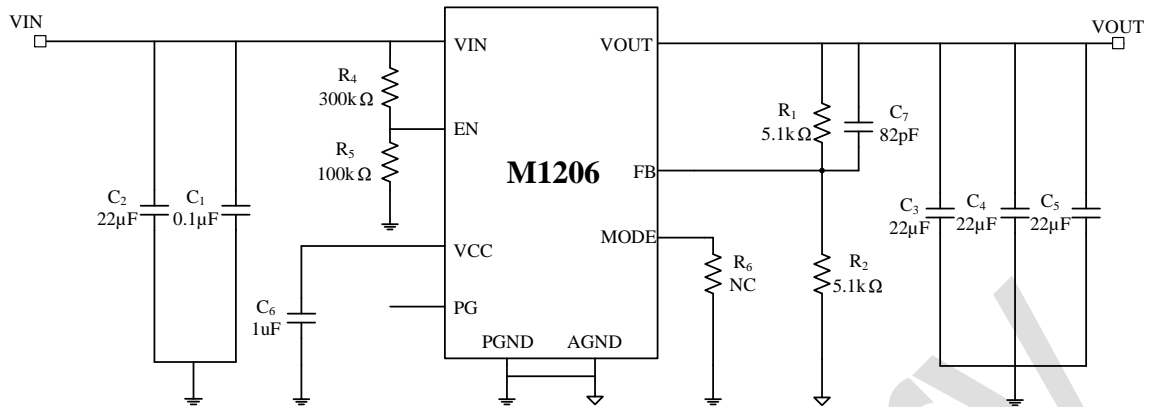

Figure 3. Typical Application Circuits of M1206 for 1.2V Output
- For tying EN to V_{IN} application, such as the typical application circuit on figure 3, the EN voltage is divided by the external resistors R_{PULL_UP} and R_{PULL_DOWN} from V_{IN} . The V_{EN} is calculated:
CIN is the sum of the input capacitors, COUT is the sum of the output capacitors, please refer to Figure 3 for parameters of other components.